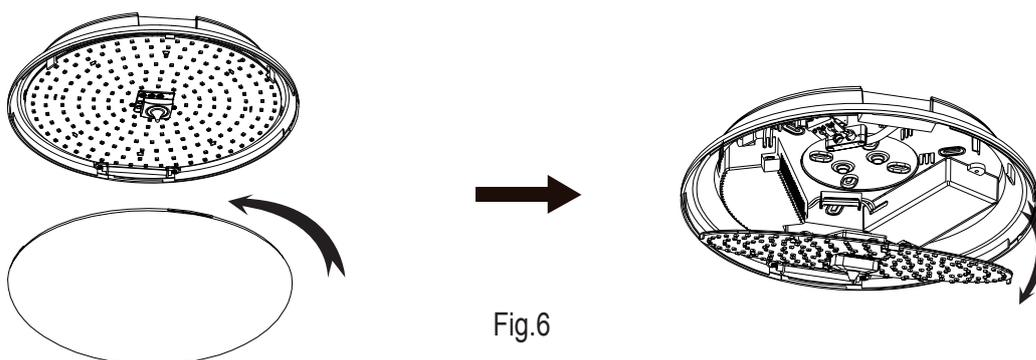

Fig.6
- Step3 Unscrew lampshade,open the lamp plate to expose the mounting holes .(as fig.6)